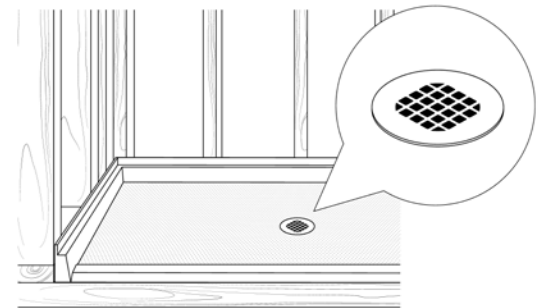

figure 5
1. The drain must be connected to the shower pan by a plumber before placing the pan. (see figure 5)